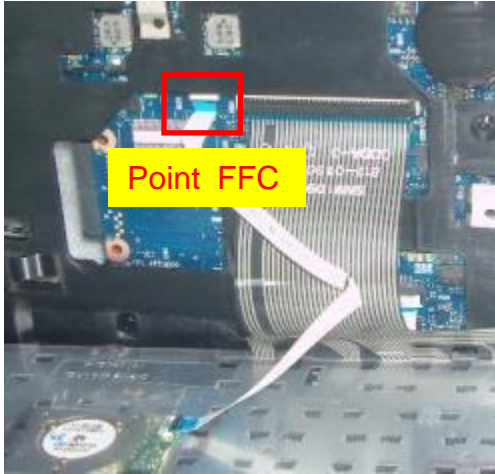

Fig.1
1. Disassemble Point FFC from M/B CNTR. (Fig.1)